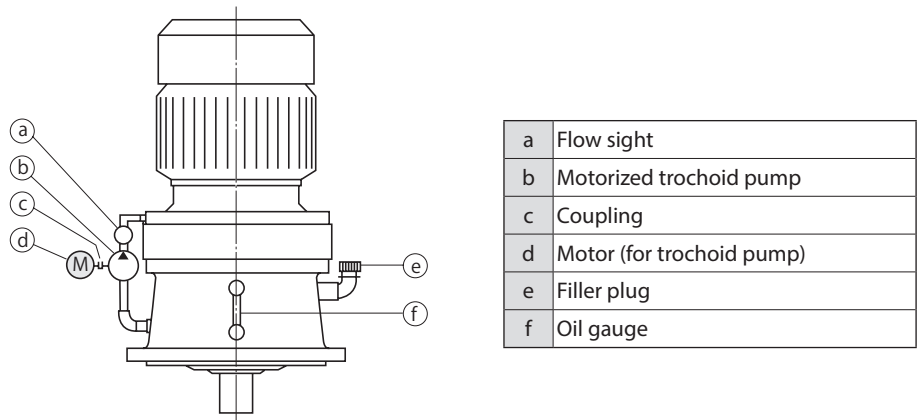

Figure 6-4 Structural Diagram of Machine With Motorized Trochoid Pump
- (1) **Vertical frame, size 6275, 6275DA** : They use a motorized trochoid pump with independent lubrication. Therefore the pump needs a separate power source. (See Table 6-5, figure 6-4)